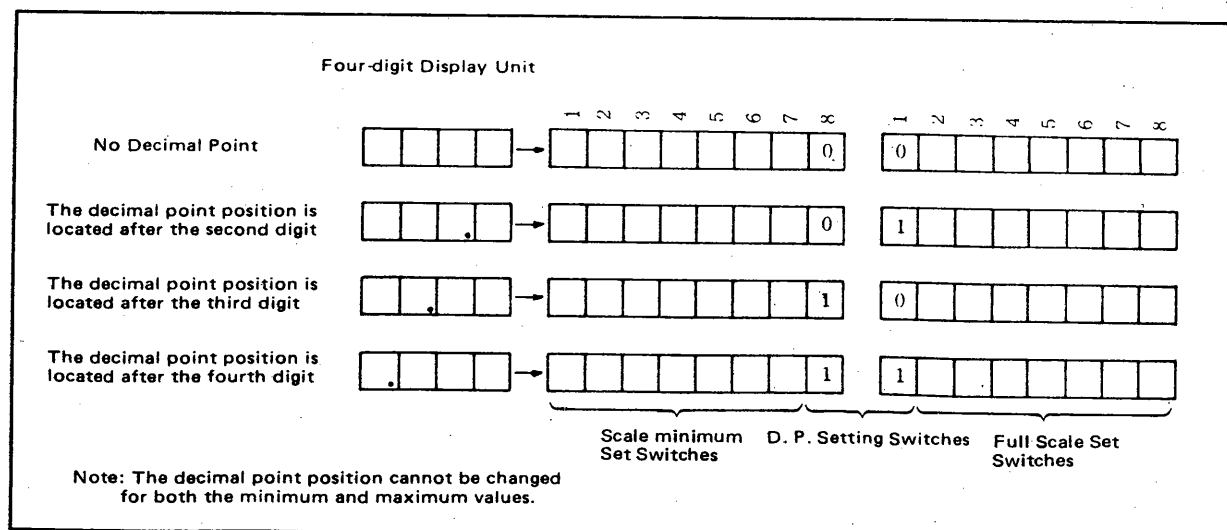

Figure 6-8. Decimal Point Position Setting.
Set No. 8 of SW1 (L) and No. 1 of SW2 (R) as follows according to the decimal point position required. (See Figure 6-8).